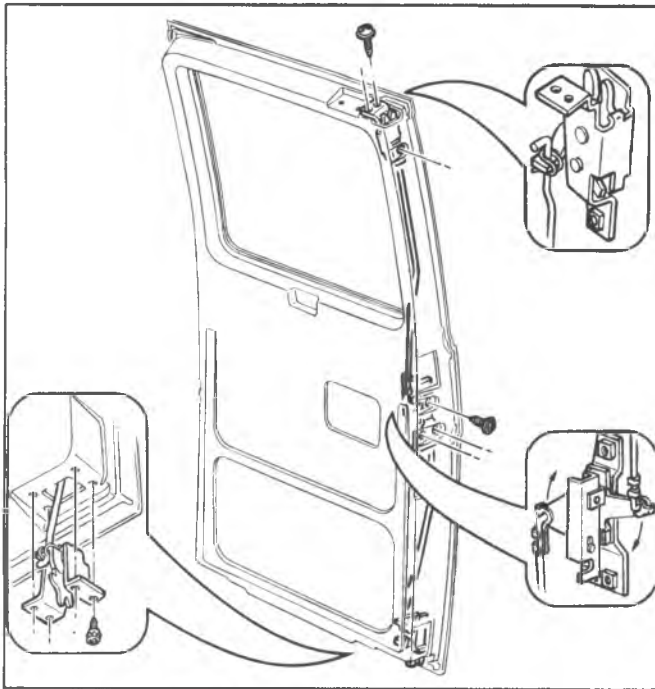

Fig. 2D-128—Remote Control and Latch
2. Disengage rod from remote control assembly. See figure 2D-128.